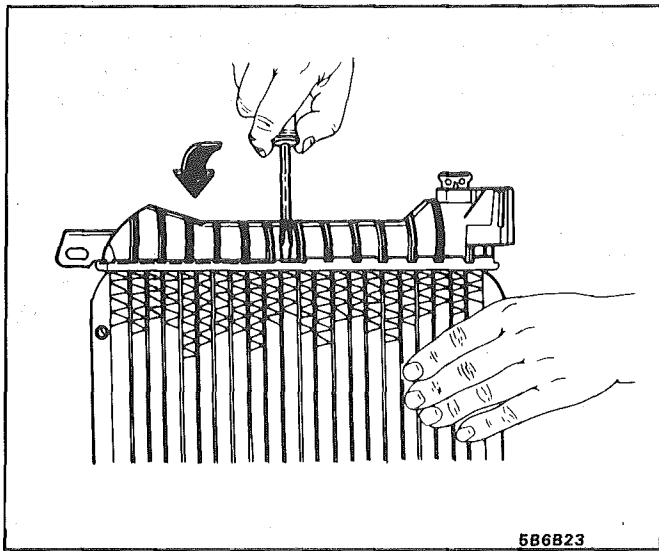

Fig. 23 Opening Clinch Tabs
1. Pry open the clinch tabs, except those under inlet, outlet, and filler necks, using J33419-A or a screwdriver (Fig. 23). Lift tabs only enough to allow removal.